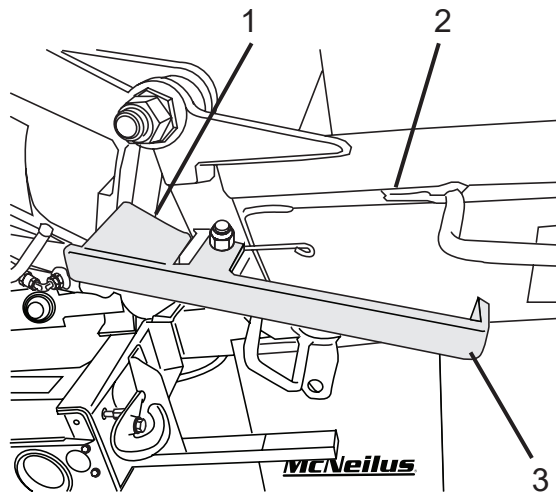

Figure 140
As the chute is unfolded, the fold-over stop tab (Figure 140, Item 1) will make contact with the main chute, preventing the chute from slamming down against the main chute.
1. Support the fold-over chute (Figure 140, Item 2).
2. Depress the handle (Figure 140, Item 3) until the stop tab (Figure 140, Item 1) clears the main chute, and lower the fold-over chute.